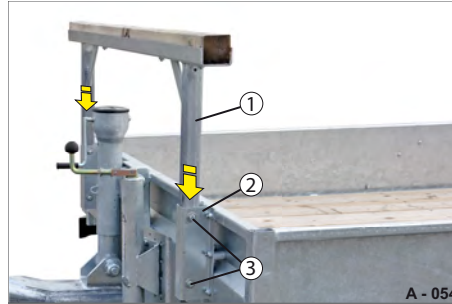

Fig. 58 Support frame secured on front wall
- ▶ If necessary, remove the screw fitting from the front wall posts (Fig. 58/1).
- ▶ Insert the support frame (Fig. 58/4) simultaneously into the front wall post (Fig. 58/1).
- ▶ Secure the support frame with the screw fitting (Fig. 58/2).